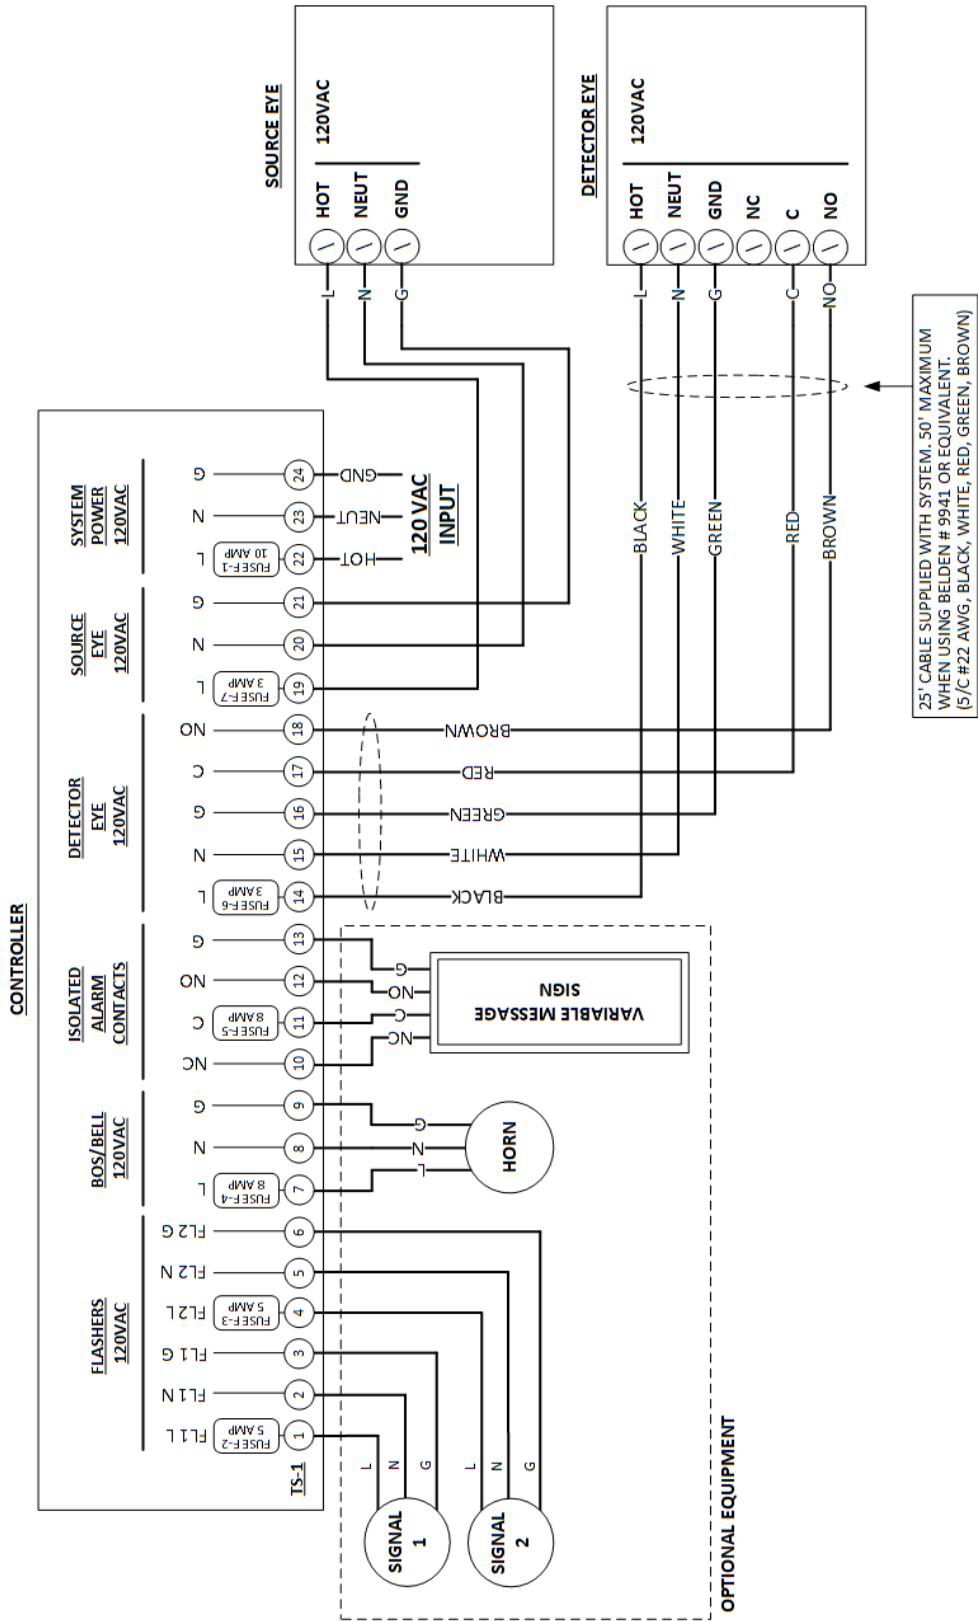

Figure 1 – Wiring Diagram
Figure 1, WIRING DIAGRAM, shows in simplified form the operation of the system. In normal operation, the Source eye generates a pulsed Infrared beam that is detected by the Detector eye and since the Detector is utilized in the “dark operate” mode, the alarm relay is not energized. Once the beam is broken, the system operates as described above.
1. Refer to Figure 1, Wiring Diagram for the following steps.
2. Make wiring connections to the Source Eye as indicated on Figure 1 and Table 1.
3. Make wiring connections to the Detector Eye as indicated on Figure 1 and Table 2.
4. Make wiring connections to the Controller as indicated on Figure 1 and Table 3.